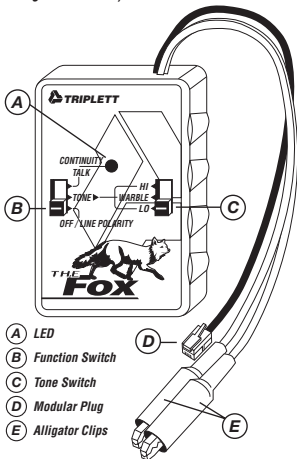

Figure 1
(See Figures 1 and 2)
8.1: FOX Details (Refer to Figure 1)
Referring to Figure 1, set the Function Switch (B) to its OFF/ LINE POLARITY position. Plug the Modular Plug (D) into